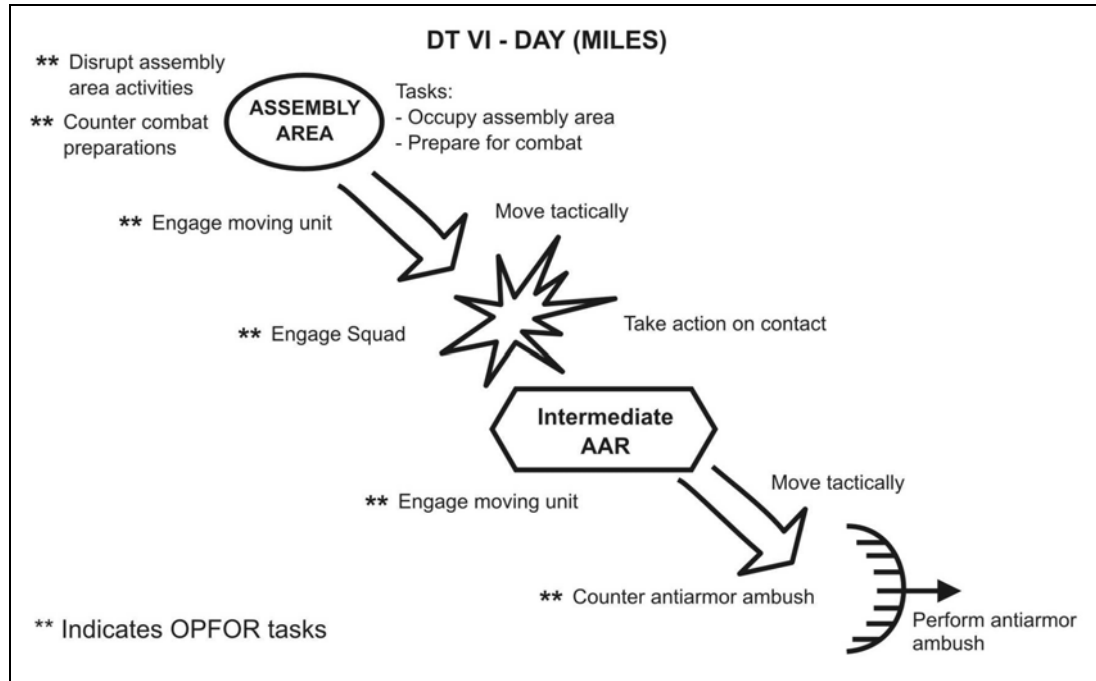

Figure F-17. Squad practice (Table VI).
a. **Table VI--Squad Practice.** DT VI allows squads to practice troop-leading procedures, reactions to contact, and an antiarmor ambush. Although this is a day exercise, the squad may conduct it again at night (Figure F-17).